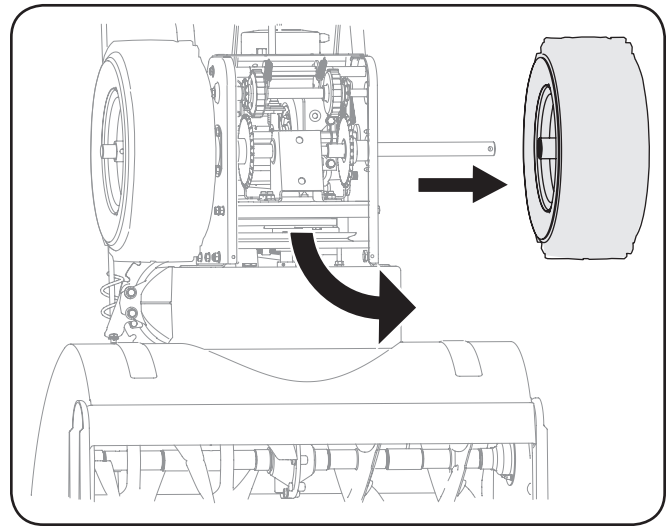

Figure 7-9
7. Remove screws from the frame cover underneath the snow thrower (refer to Fig. 7-9). Remove the right wheel from the axle.